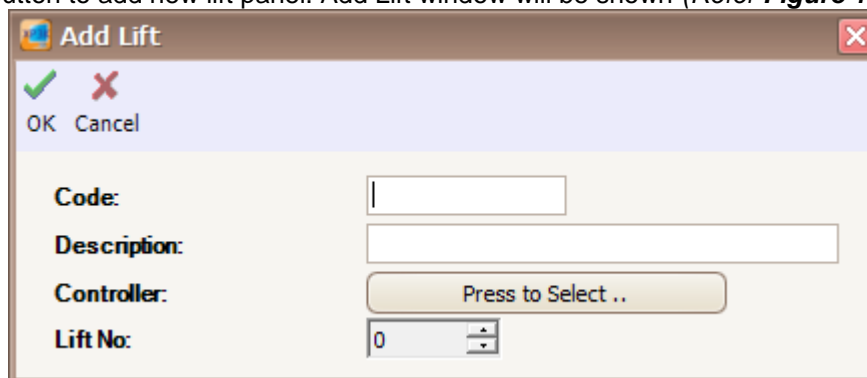

Figure 138 - Add Lift
3. Click Add button to add new lift panel. Add Lift window will be shown (Refer **Figure 138**).